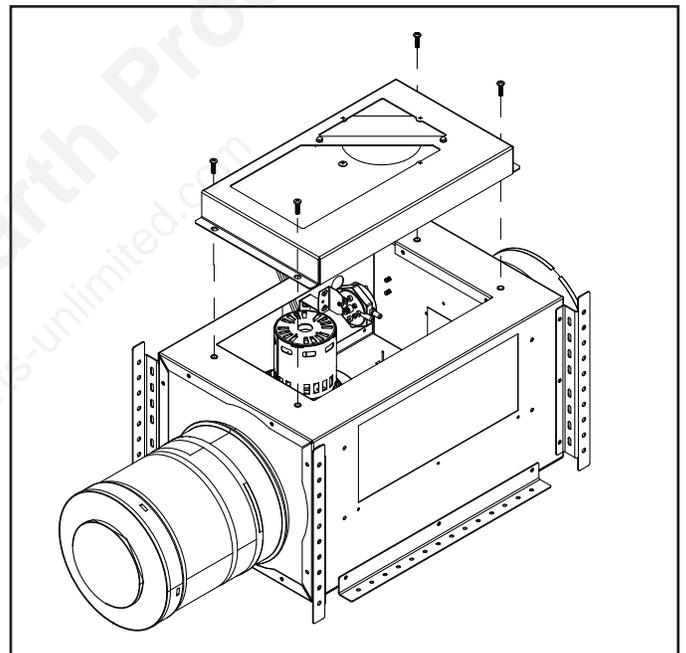

Figure 4.22 Motor and Electrical Access
3. Motor: The blower motor bearings are sealed and no further lubrication is necessary. To access the motor, vacuum switch or pressure sense tube, refer to Figure 4.22.